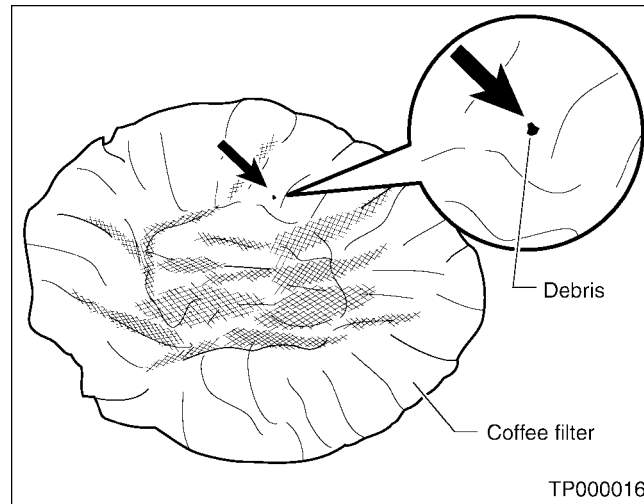

Figure 12
1. Inspect the coffee filter for debris (see Figure 12).